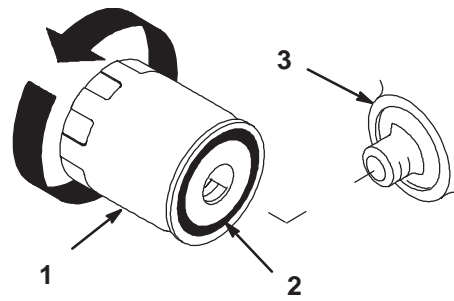

Figure 42
2. Remove the old filter and wipe the filter adapter (Fig. 42) gasket surface.
4. Apply a thin coat of new oil to the rubber gasket on the replacement filter (Fig. 42).
5. Install the replacement oil filter to the filter adapter. Turn the oil filter clockwise until the rubber gasket contacts the filter adapter; then tighten the filter an additional 1/2 turn (Fig. 42).